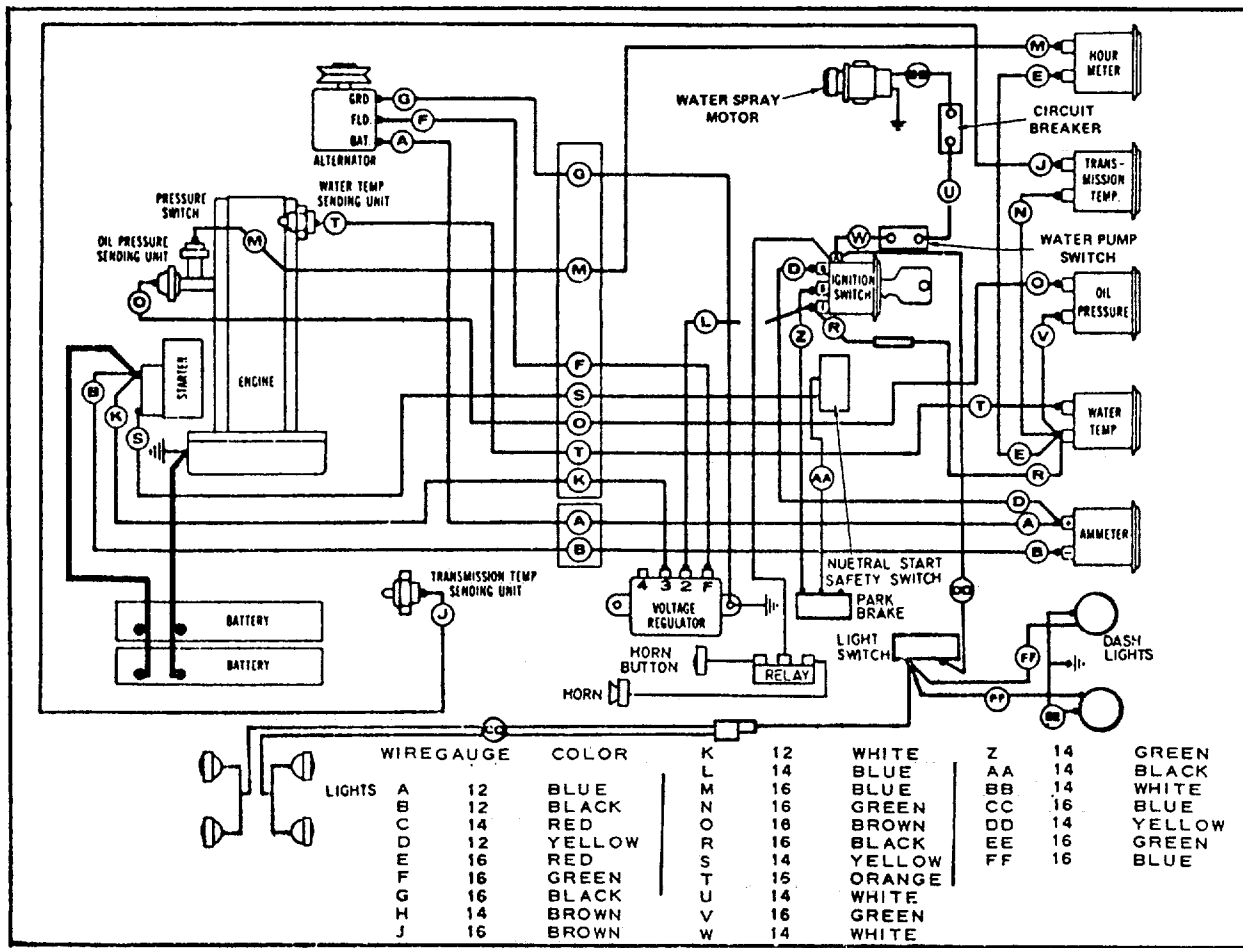
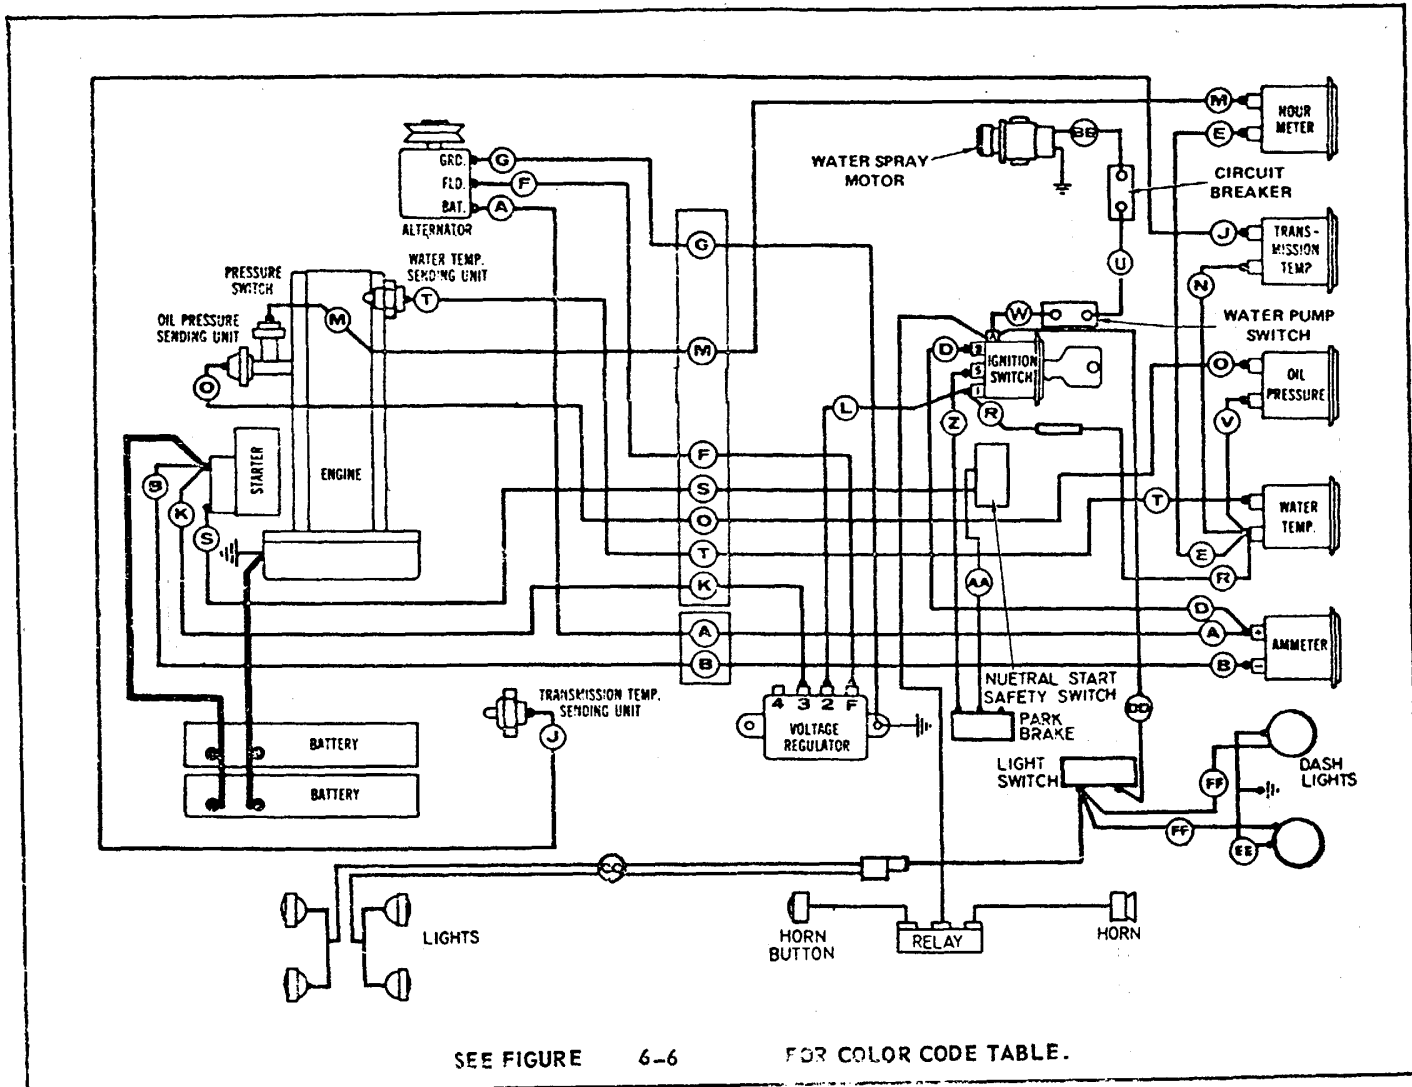

FIGURE 4-14. ELECTRICAL SYSTEM SCHEMATIC (WITH DIESEL ENGINE).
FIGURE 6-4. ELECTRICAL SCHEMATIC FOR DETROIT.
2. Figure 4-14, page 4-12 and figure 6-4, page 6-4 have been revised to include the horn circuit. The revised figures are attached--please include in the manual.